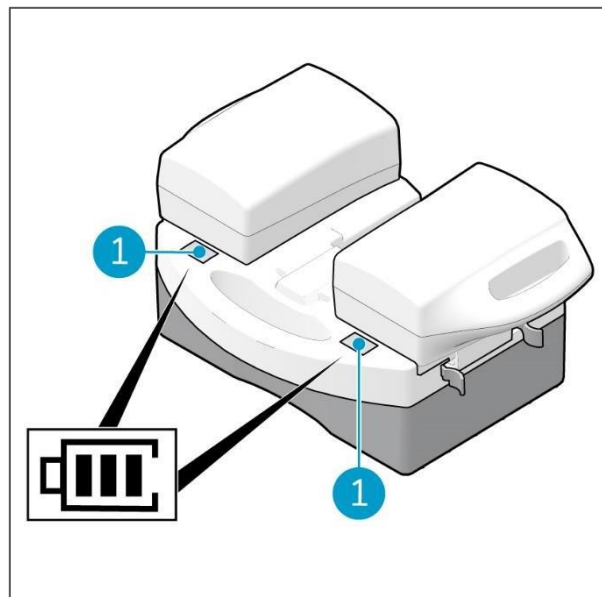

Figure 8
3. The two displays (Figure 8, pos 1) indicate the charge level of the batteries.